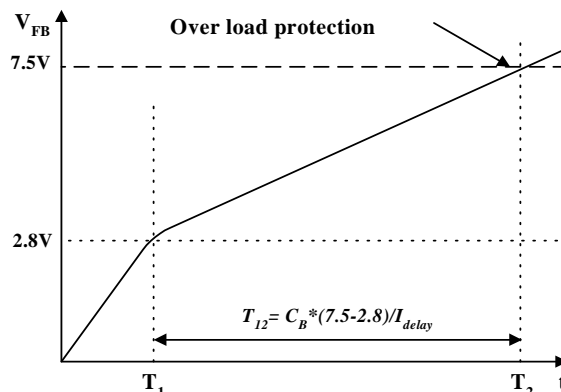

Figure 13. Over load protection
4.1 Over Load Protection (OLP) : Overload is defined as the load current exceeding its normal level due to an unexpected abnormal event. In this situation, the protection circuit should trigger in order to protect the SMPS. However, even when the SMPS is in the normal operation, the over load protection circuit can be triggered during the load transition. In order to avoid this undesired operation, the over load protection circuit is designed to trigger after a specified time to determine whether it is a transient situation or an overload situation. Because of the pulse-by-pulse current limit capability, the maximum peak current through the Sense FET is limited, and therefore the maximum input power is restricted with a given input voltage. If the output consumes more than this maximum power, the output voltage (V_o) decreases below the set voltage. This reduces the current through the opto-coupler LED, which also reduces the opto-coupler transistor current, thus increasing the feedback voltage (V_{fb}). If V_{fb} exceeds 2.8V, D1 is blocked and the 5uA current source starts to charge C_B slowly up to V_{cc} . In this condition, V_{fb} continues increasing until it reaches 7.5V, when the switching operation is terminated as shown in Figure 13. The delay time for shutdown is the time required to charge C_B from 2.8V to 7.5V with 5uA. In general, a 20 ~ 50 ms delay time is typical for most applications. This protection is implemented in auto restart mode.